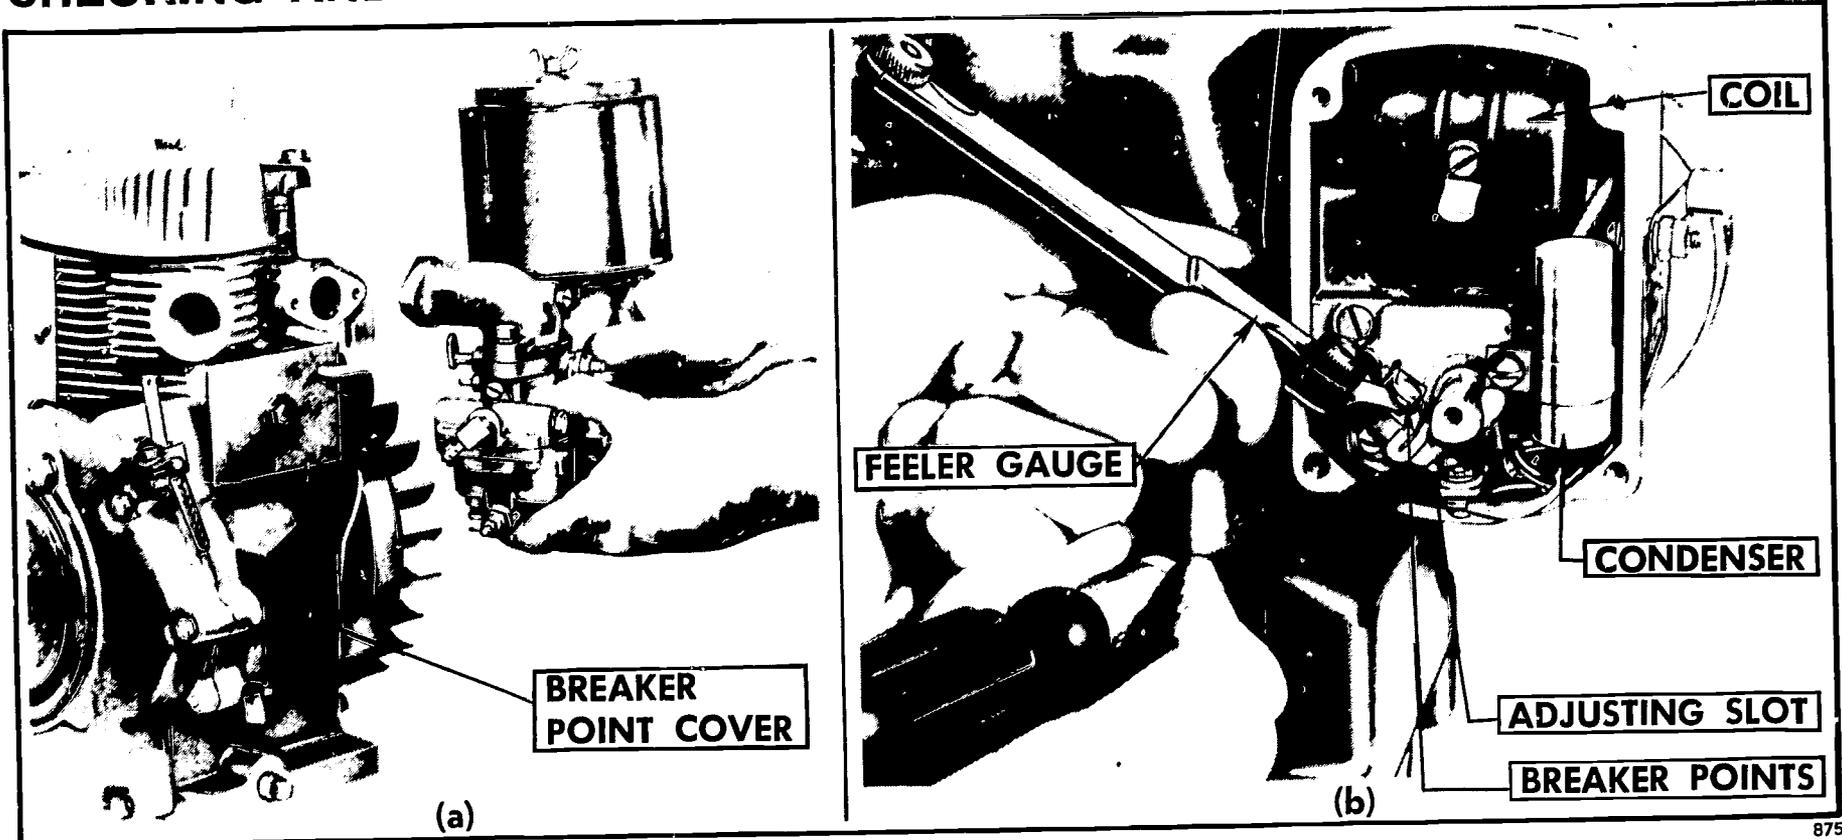

FIGURE 93. Some breaker points are located on the side of the engine. (a) Engine with a flywheel magneto but
1. Locate the breaker-point assembly (Figures 93 and 94).
Some breaker points are easily accessible. They are **located on the side of the engine** and may be reached by removing a protective cover (Figure 93).